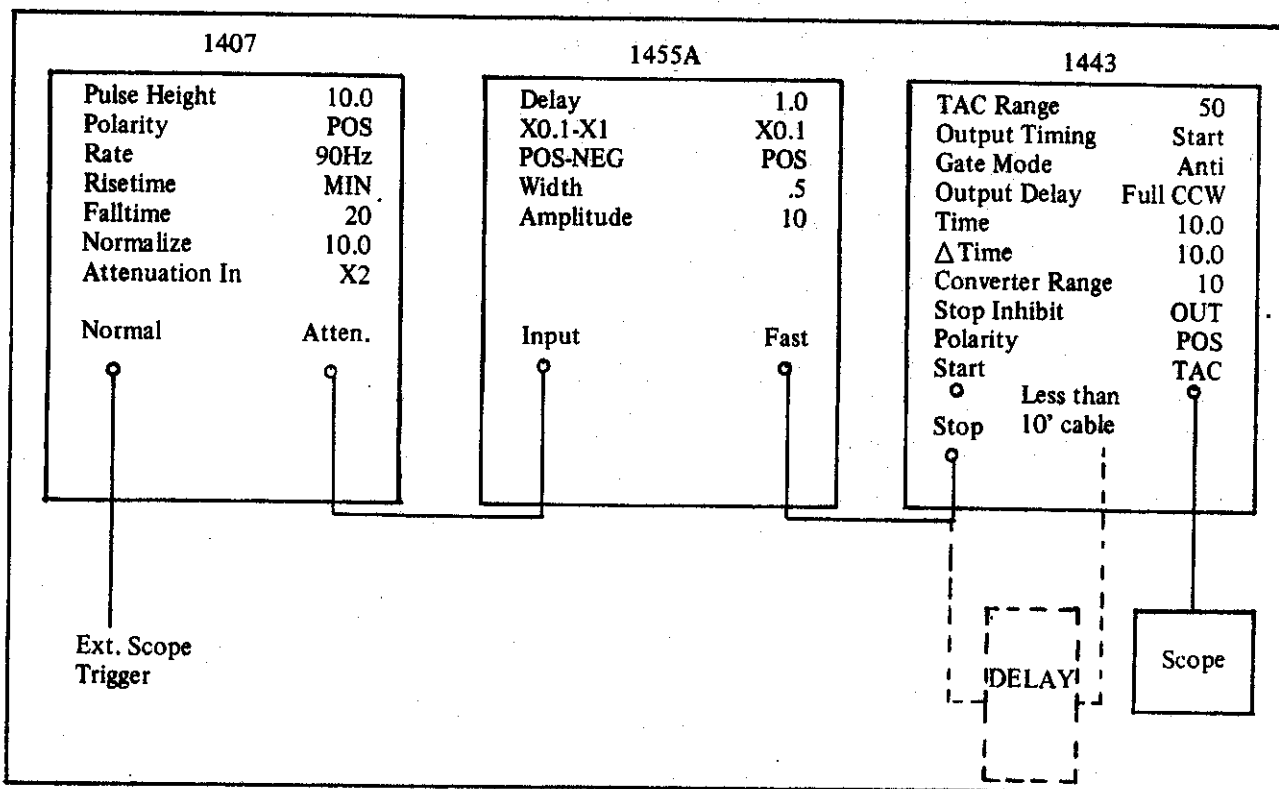

Figure 4-1. Set-up Diagram, Model 1443.
1. Insert the Model 1407, 1443, and 1455A modules in AEC compatible base unit/power supply such as the Canberra Model 1400. Interconnect and set the controls as in setup diagram (Figure 4-1).